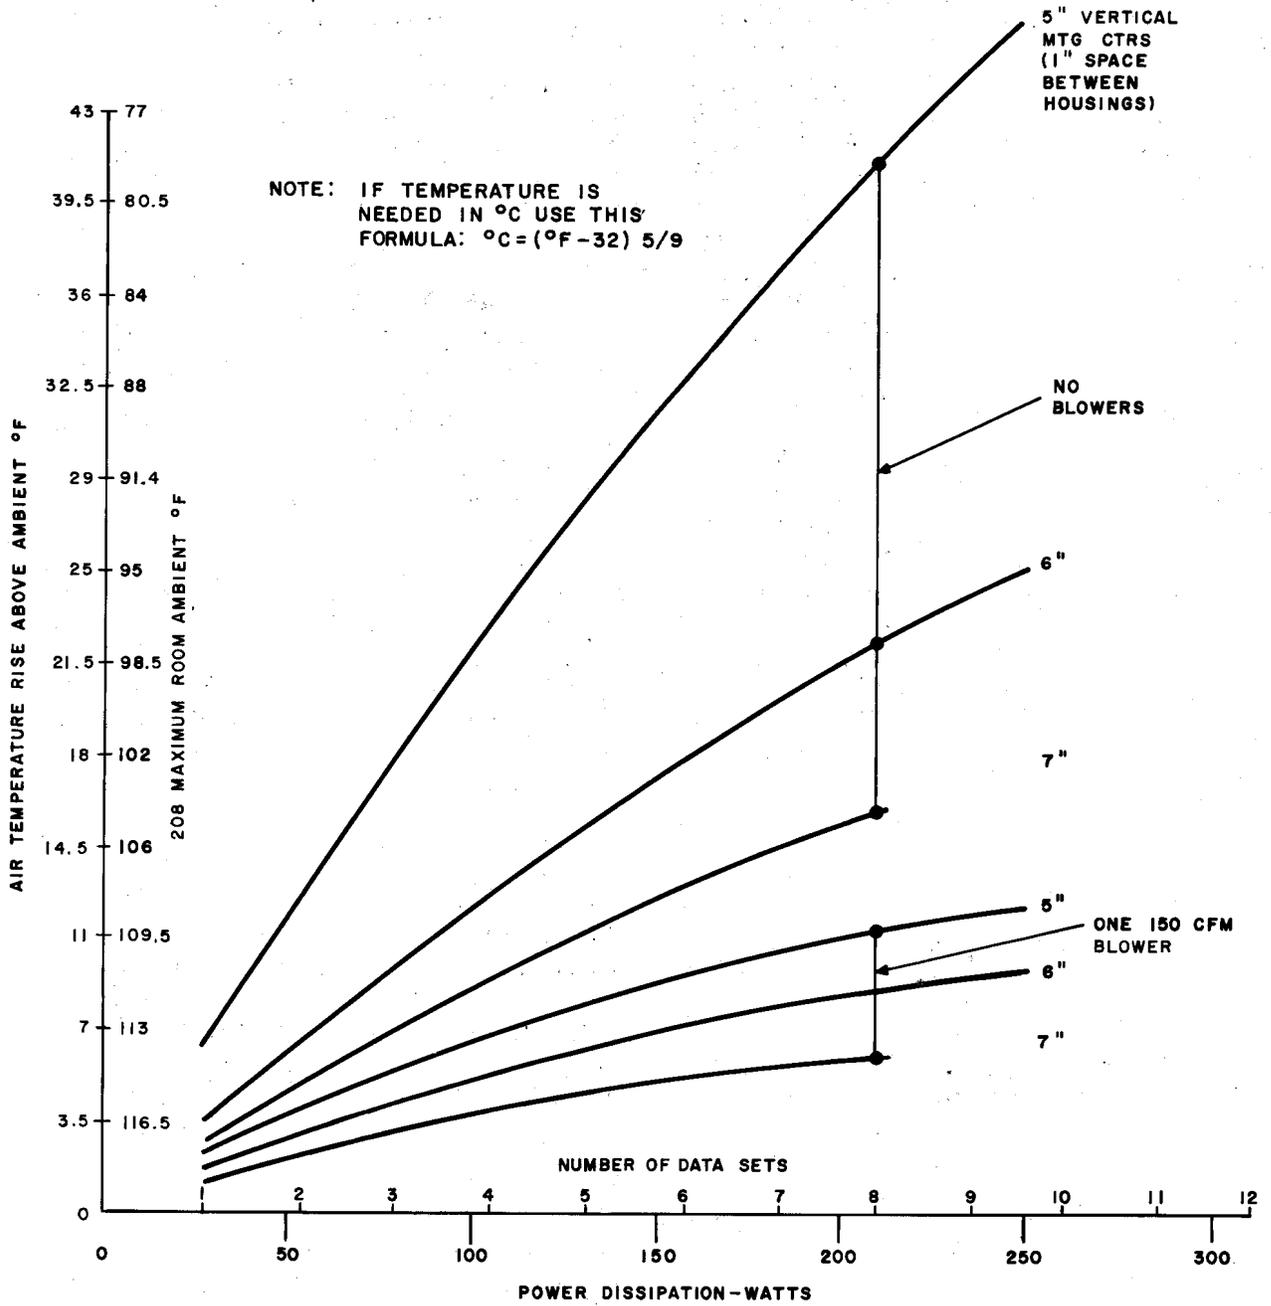

Fig. 2—Internal Air Temperature Rise vs. Power Dissipation in KS-20018-L15 or -L17 Cabinet for DS 208-Type
2.42 Refer to Fig. 2 for thermal considerations when planning a multiple installation of DS 208A-type in KS-20018-L15 or -L17 cabinets with and without blowers attached. When mounting eight DSs 208A-type on 5-inch vertical mounting centers which provide 1 inch of clear space between housings, a worst case temperature rise of 41° F or 23° C over external ambient is reached. If the vertical centers are increased to 6 inches (2 inches between housings), a temperature increase of approximately 22° F or 12° C is expected. Increasing the mounting centers to 7 inches (3 inches between housings) provides a temperature increase of approximately 15° F or 8° C. Therefore, in considering ambient conditions above a normal room temperature of approximately 75° F (24° C), these sets must either be mounted on vertical centers of 6 inches or greater, or forced air convection must be provided.